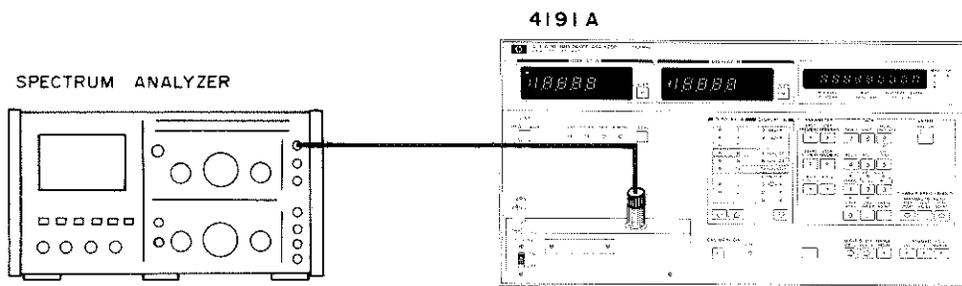

Figure 4-3. Measurement Signal Purity Test Setup.
1. Connect an N type connector cable to the 4191A UNKNOWN connector and to the spectrum analyzer input as illustrated in Figure 4-3 (Use an APC-7 to N type terminal converter).